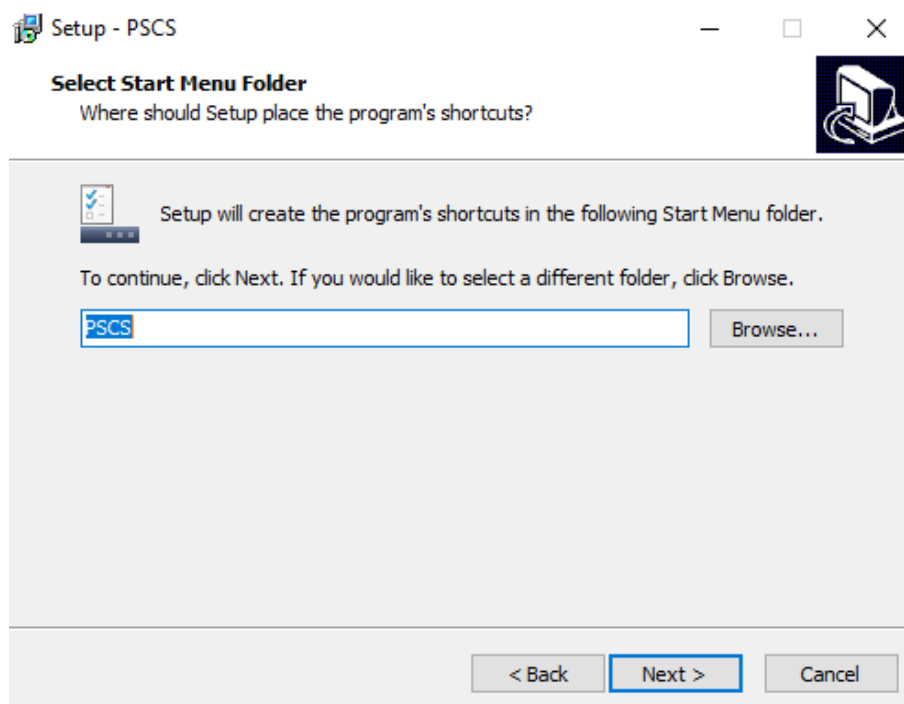

Figure 7.6
6. Select a location for the software shortcut. **Figure 7.6**